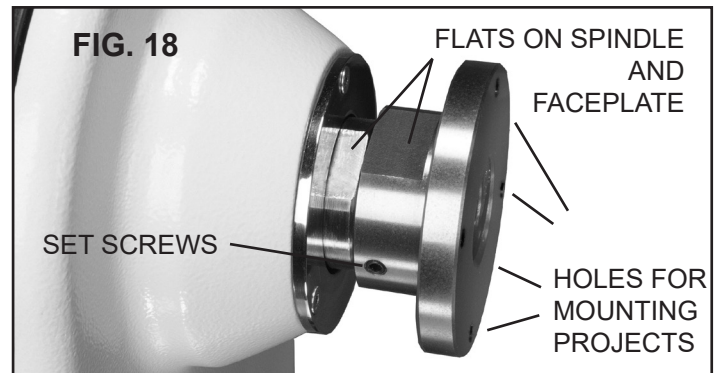

FIG. 19
To REMOVE the faceplate, first loosen the set screws. The spindle and rear hub of the faceplate each have flats that are for use with open end wrenches. FIG. 19. Next, use the 2 extra large, double ended wrenches (N) (38mm/46mm) for holding the spindle and also to hold the back hub of the faceplate for removal of the faceplate. Or use one wrench while pushing in the Spindle Lock Button. Use the same process for removing a chuck.